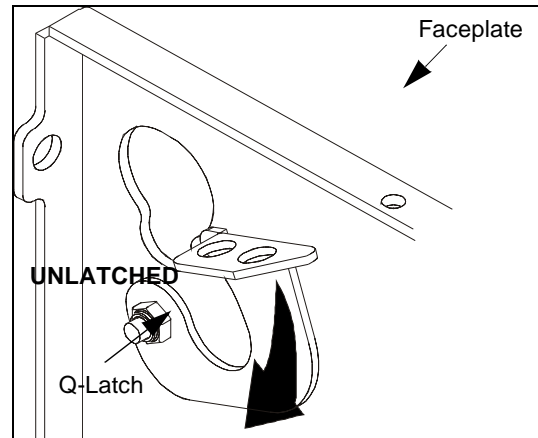

Figure 6
1. Two Q-latches are installed on this mount. Make sure both Q-Latches are in the UNLATCHED position (See Figure 6).